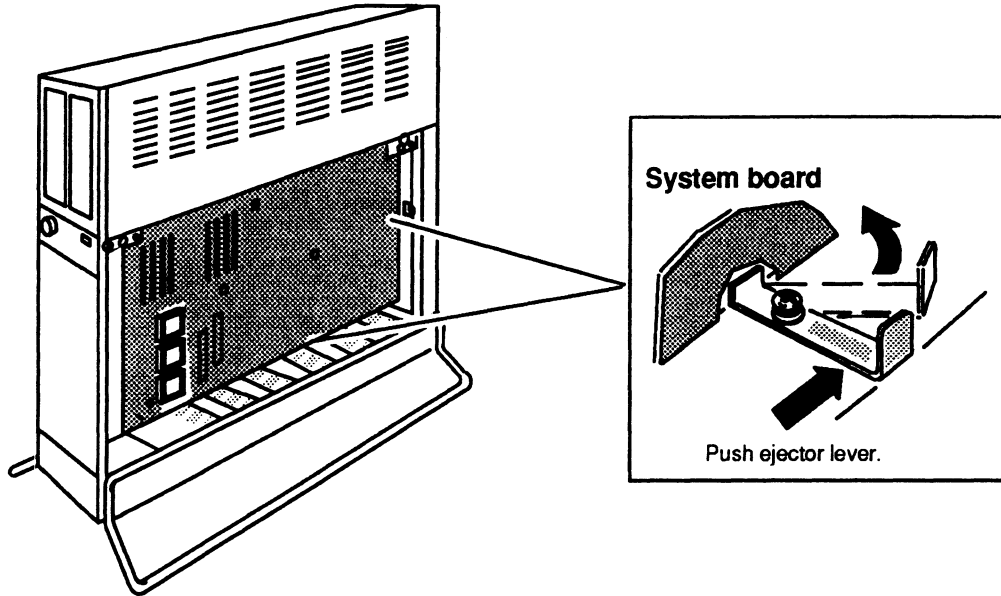

Figure 5-5 Disconnecting the Connectors from the System Board
5. Push the two ejector levers to the right as shown in Figure 5-5 to disconnect the system board from the VME connectors behind it.